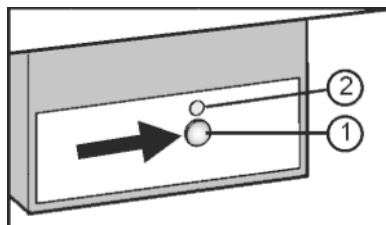

Fig. 16
- ▶ Press On/Off button Fig. 16 (1) so that the LED Fig. 16 (2) lights up.